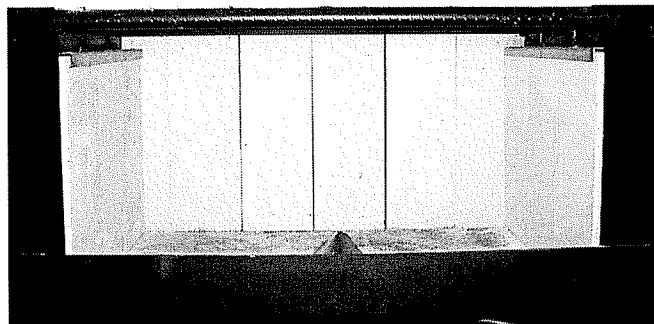

Figure 11B
Step 2: Starting at the back, position (3) 4 1/2" x 10 3/4" under the firebrick brackets at each side. (6 firebrick used). **Figure 11B.**